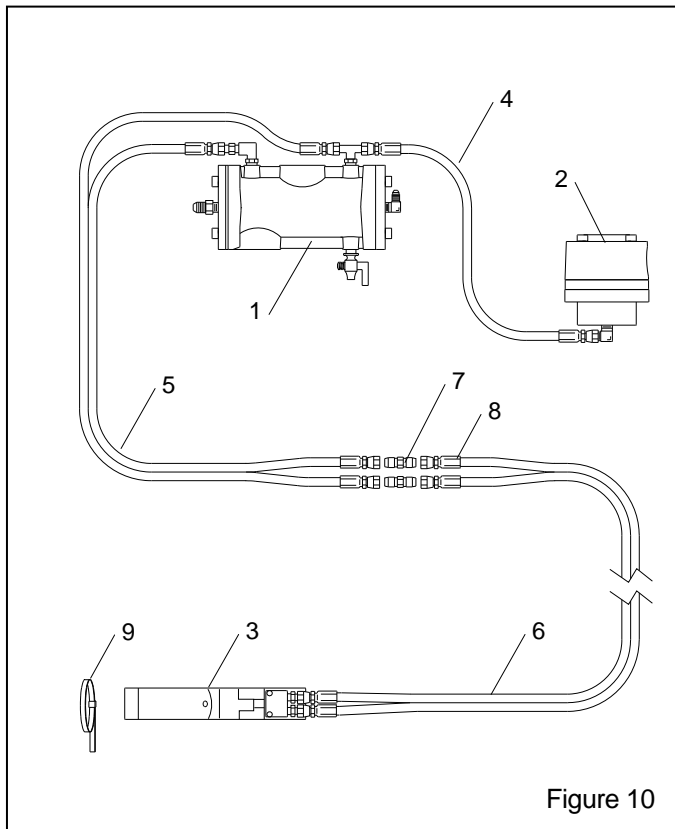

Figure 10
8.3 Remote Control System Parts, Figure 10